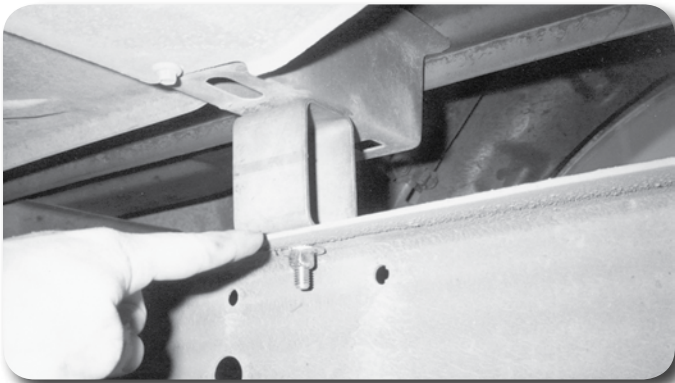

Figure 20
47. Install the metal body spacers at the four points where the bed cross members rested on the frame. Remove the rubber pads from the frame at the four contact points. Install the metal spacers and align the holes in the spacers with the holes in the frame where the pads were located. Use 3/8" x 1" bolts, 3/8" USS washers, and lock nuts to secure the spacers to the frame **Figure 20**.